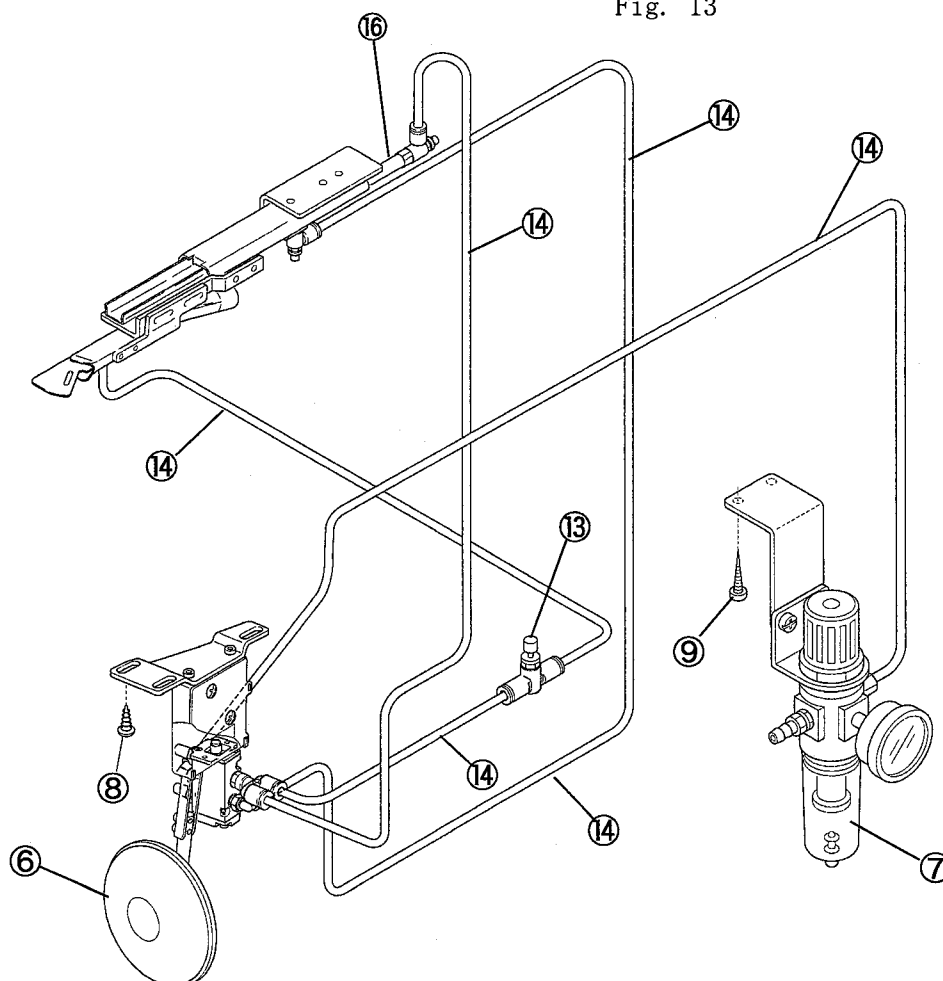

Fig. 14
- (1) Set the device ④ horizontally to the machine frame with two screws ⑤.
- (2) Set the toggle switch ⑥ with two screws ⑧ and air regulator ⑦ with two screws ⑨ under the machine table. (Fig. 14)
- (4) Connect the air pipe⑭ referring to Fig. 14.